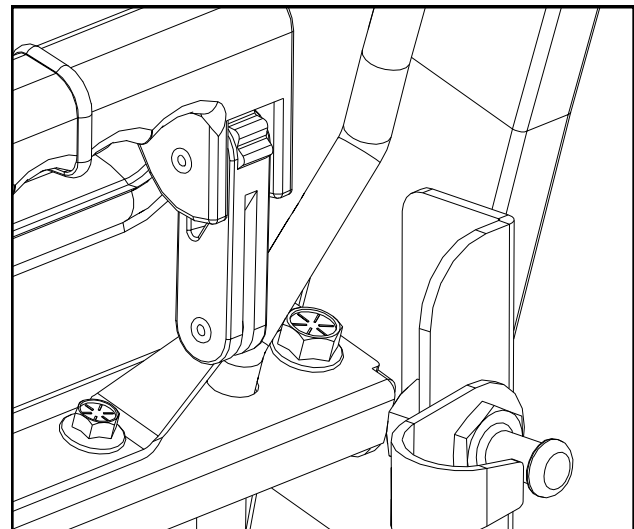

Fig. 19.2b (run wire loom thru cowl - right)
19.5 Run the wire loom thru the top flange of the cowl and over the switched power wire harness. See Fig. 19.2b. Cut the wiper harness to length, allowing enough room to connect the wiper harness to the switched power wire harness. Crimp on the (2) female push-on terminals from wiper wiring kit and connect to the switched power wire harness push-on terminals by matching colors.